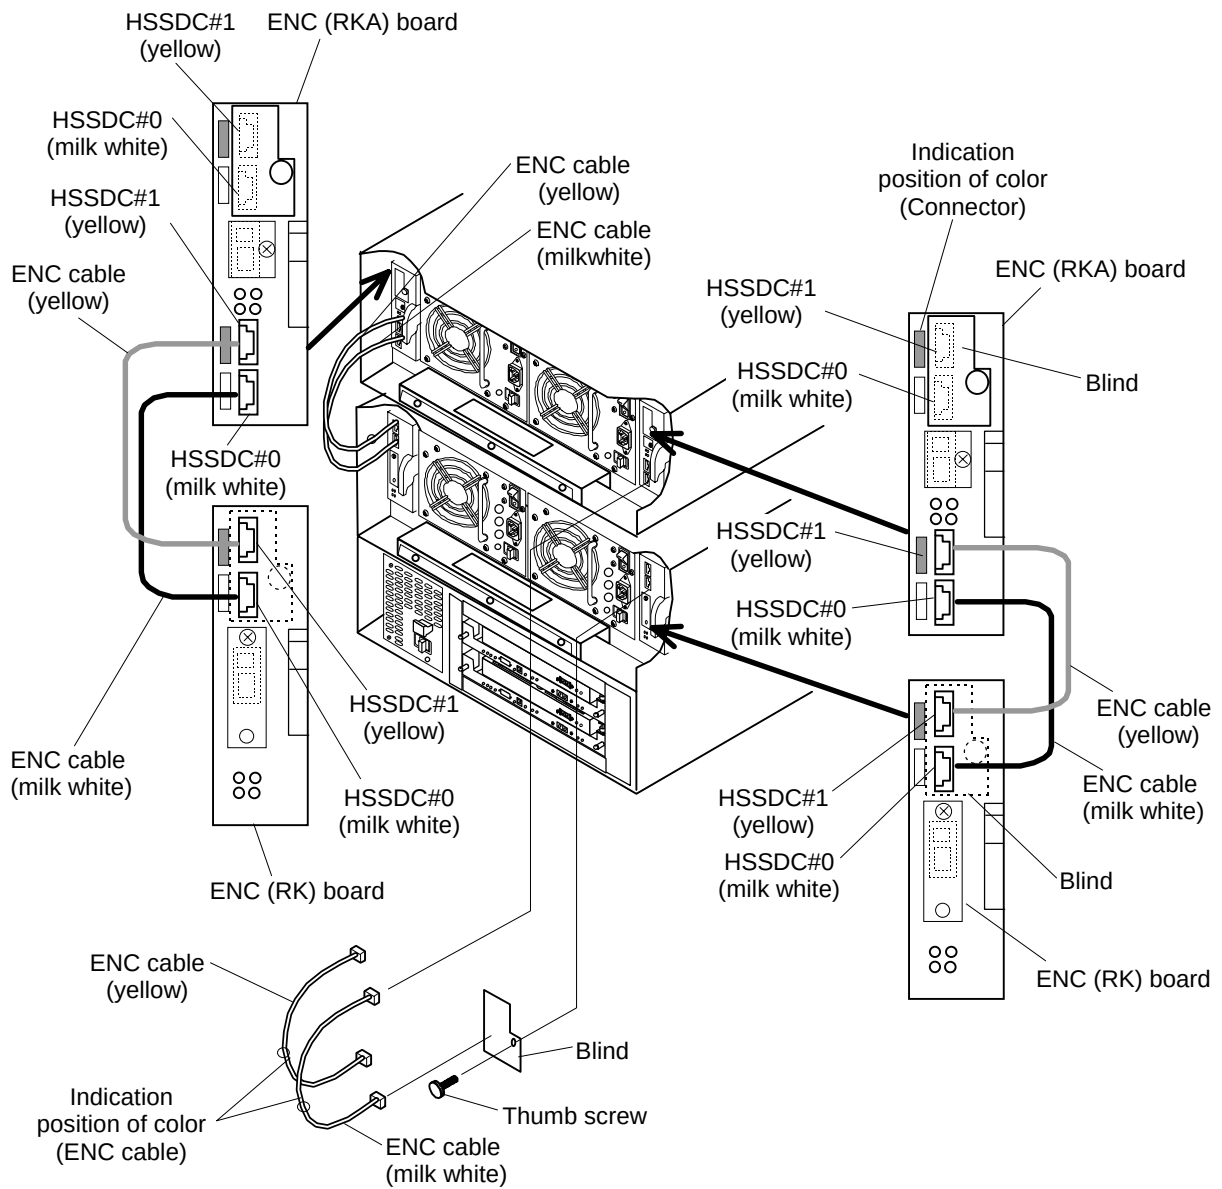

Figure 3.7.4 Connecting ENC Cables
- (b) Connect the ENC cable to the ENC (RK) board.
Notice: When connecting the left and right sets of the ENC (RK) board and ENC (RKA) board with the ENC cables, be sure to connect each of the cables to the sets of adjacent connectors of the same kind, that is, the HSSDC#0 (marked in milk white) and the HSSDC#1 (marked in yellow) of the ENC (RKA) board and the ENC (RK) board (see Figure 3.7.4).